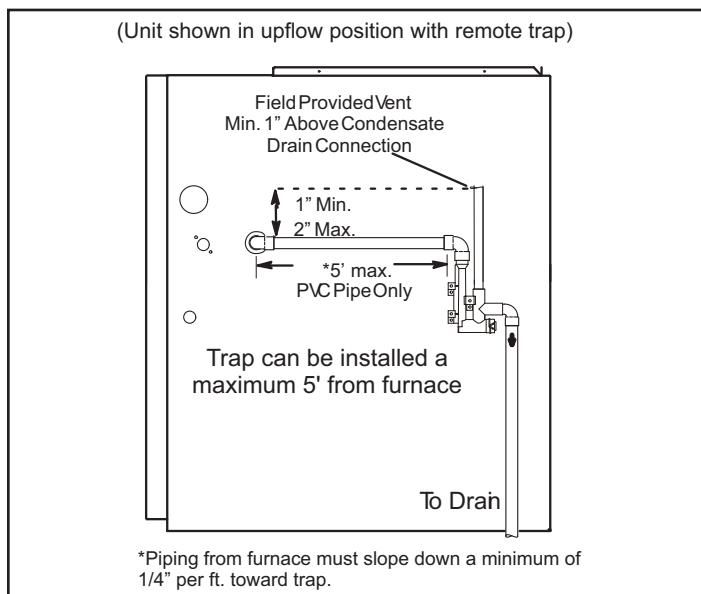
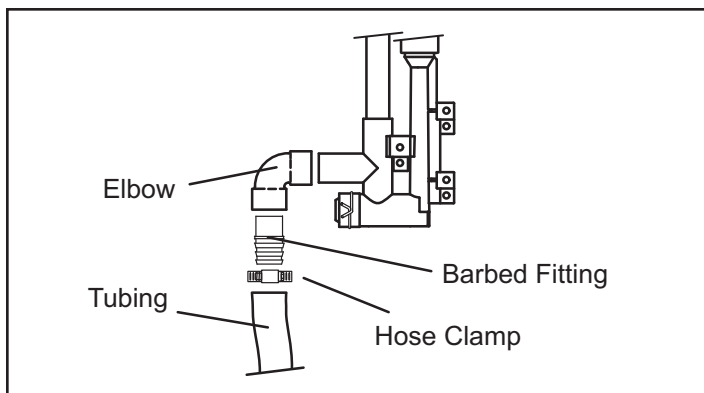
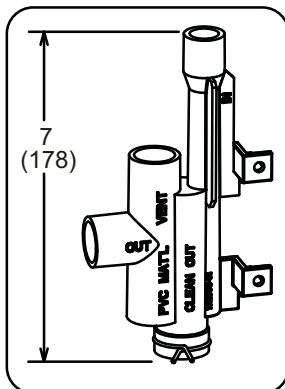

Figure 36. Condensate Trap Locations
Figure 37. Field-Provided Drain Components
Figure 44. Trap / Drain Assembly Using 1/2" PVC or 3/4" PVC Cold End Header Box with 1/2 Drain Connection
This unit is designed for either right- or left-side exit of condensate piping in upflow applications. In horizontal applications, the condensate trap must extend below the unit. An 8" service clearance is required for the condensate trap. Refer to **Figure 36** and **Figure 37** for condensate trap locations. **Figure 43** and **Figure 44** show trap assembly using 1/2" PVC or 3/4" PVC.
4. Install drain trap using appropriate PVC fittings, glue all joints. Glue the provided drain trap as shown in **Figure 43** and **Figure 44**. Route the condensate line to an open drain. Condensate line must maintain a 1/4" downward slope from the furnace to the drain.
NOTE: Appropriately sized tubing and barbed fitting may be used for condensate drain. Attach to the drain on the trap using a hose clamp. See **Figure 37**.